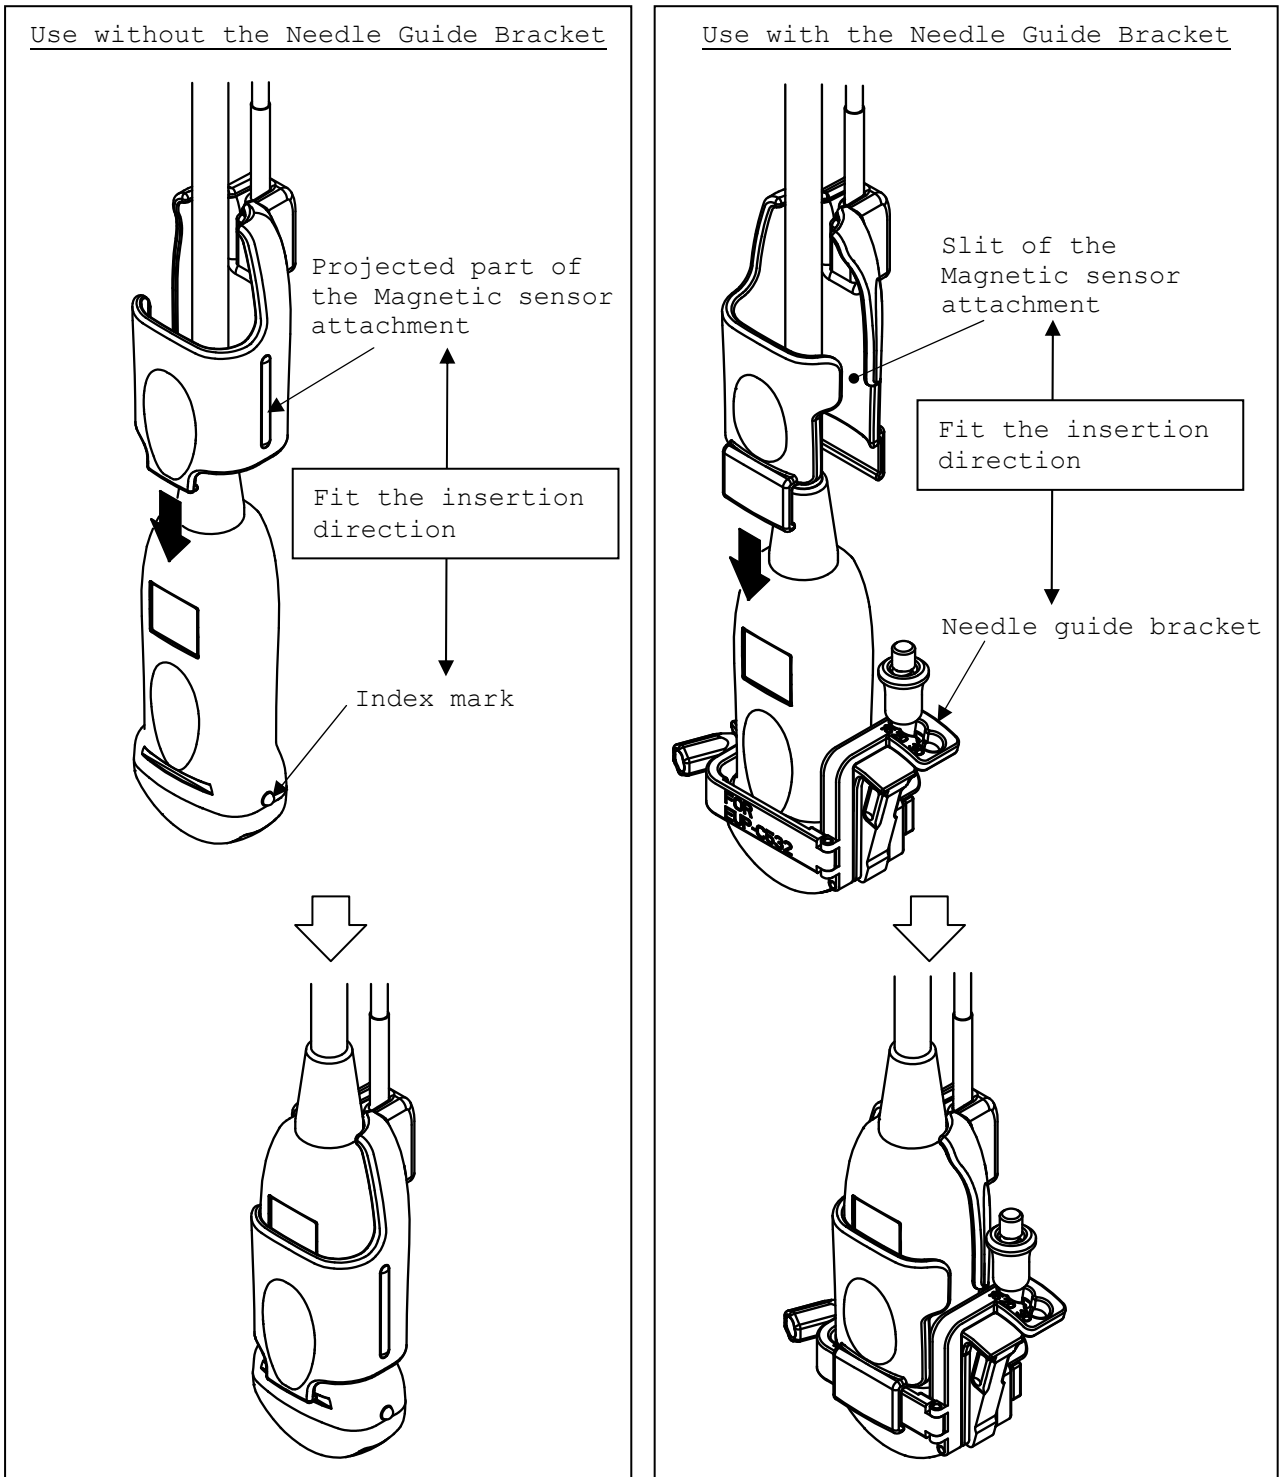

Fig.12 How to attach the Magnetic sensor attachment
c) Attach the Magnetic sensor attachment to the probe with the correct direction as shown in Fig.12.